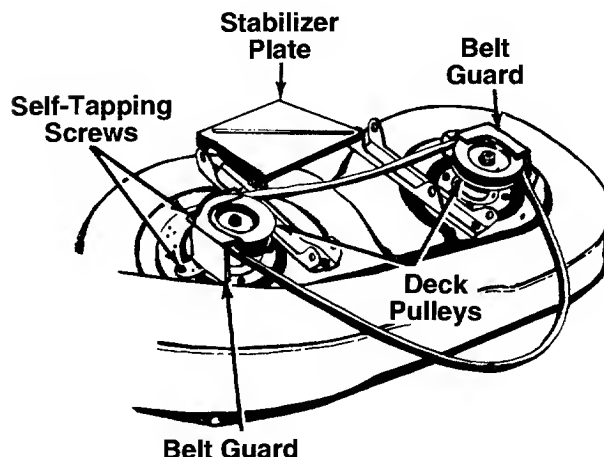

FIGURE 24.
10. Remove the belt guards at each deck pulley by removing the self-tapping screws. See figure 24.